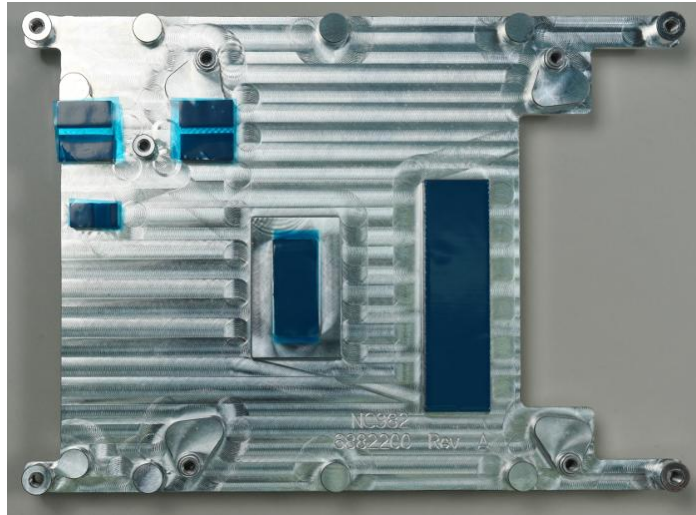

Figure 8 Thermal Pad liners location
2. Remove all thermal pad liners from bottom of heat spreader. Avoid any contamination of exposed thermal pad surfaces. Refer Figure 8 for reference.